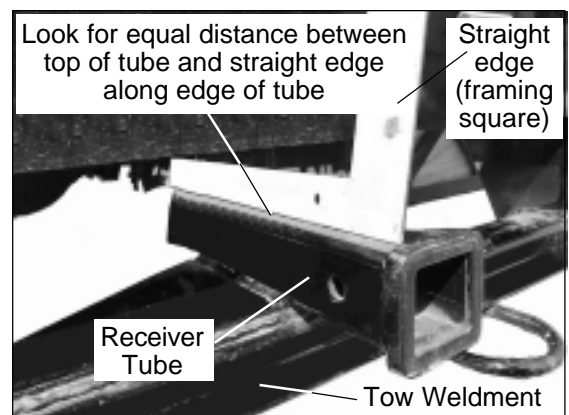

Figure 3 — Inspecting Receiver Tube
3. Use the straight edge or level to see if the receiver tube is straight or deformed (refer to Figure 3).